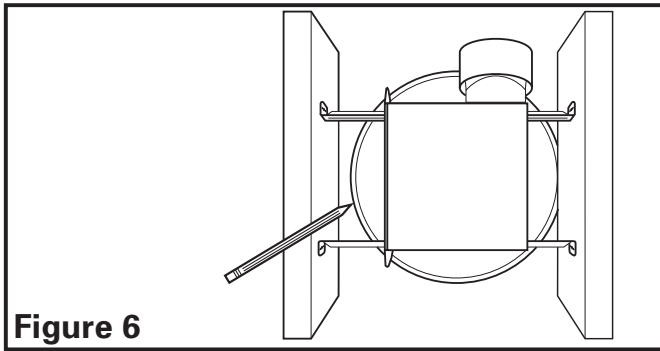

Figure 6
- 1a. **Mounting Rail Installation:** Set housing in position between the joist and trace an outline onto the ceiling material (**Figure 6**). Set housing aside and cut opening, being careful not to cut or damage any electrical or other hidden utilities. Install the rails on the housing and position the housing in the previously cut hole so that it is flush with the finished ceiling. Secure the ends of the rails with screws or nails (not included) to the joists (**Figure 4**).